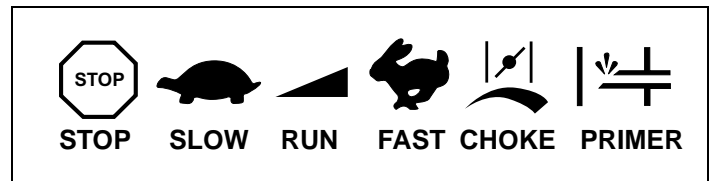

Figure 15. Typical Engine Symbols
3. Move engine speed control to "FAST" position. See Figures 15 thru 17.
7. Move engine speed control to desired speed in “RUN” range. See Figure 15 on page 8. Afterward, continue reading instructions below.